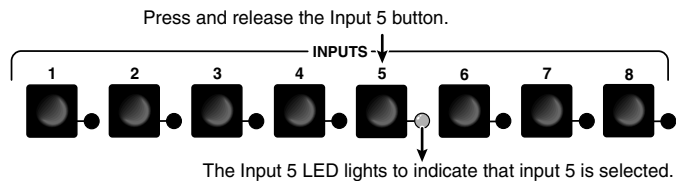

Figure 3-4 — Select an input
2. Press and release the Input 5 button (figure 3-4).